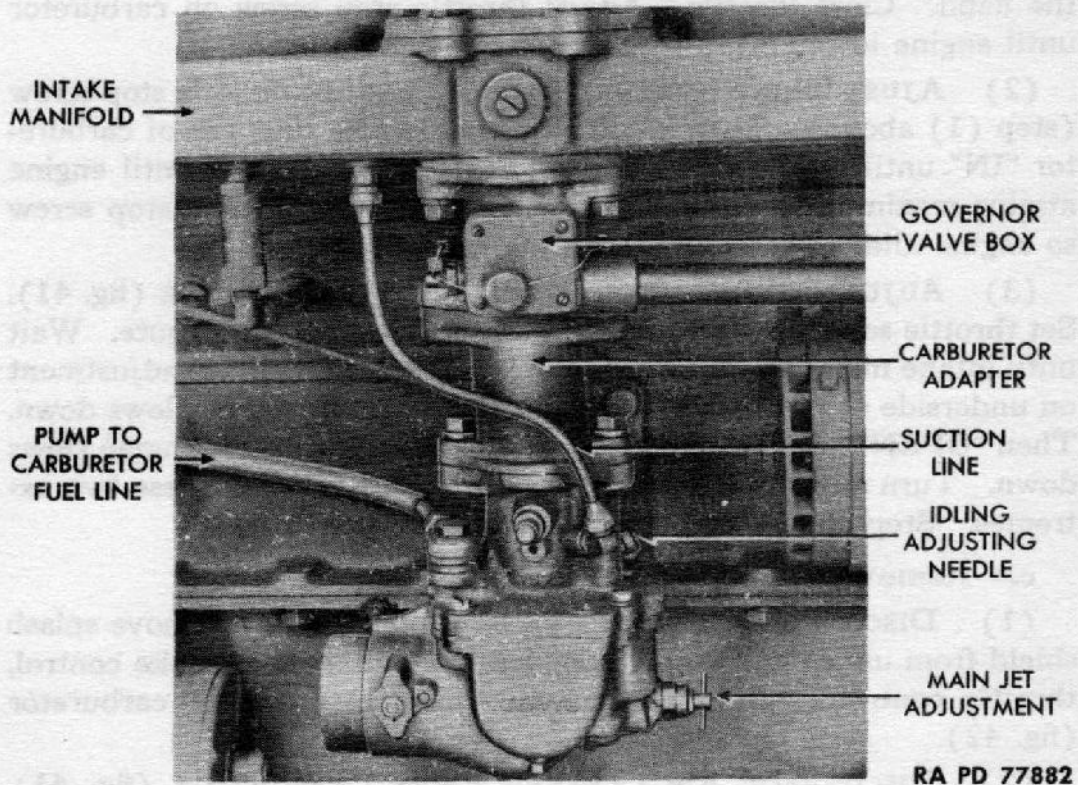
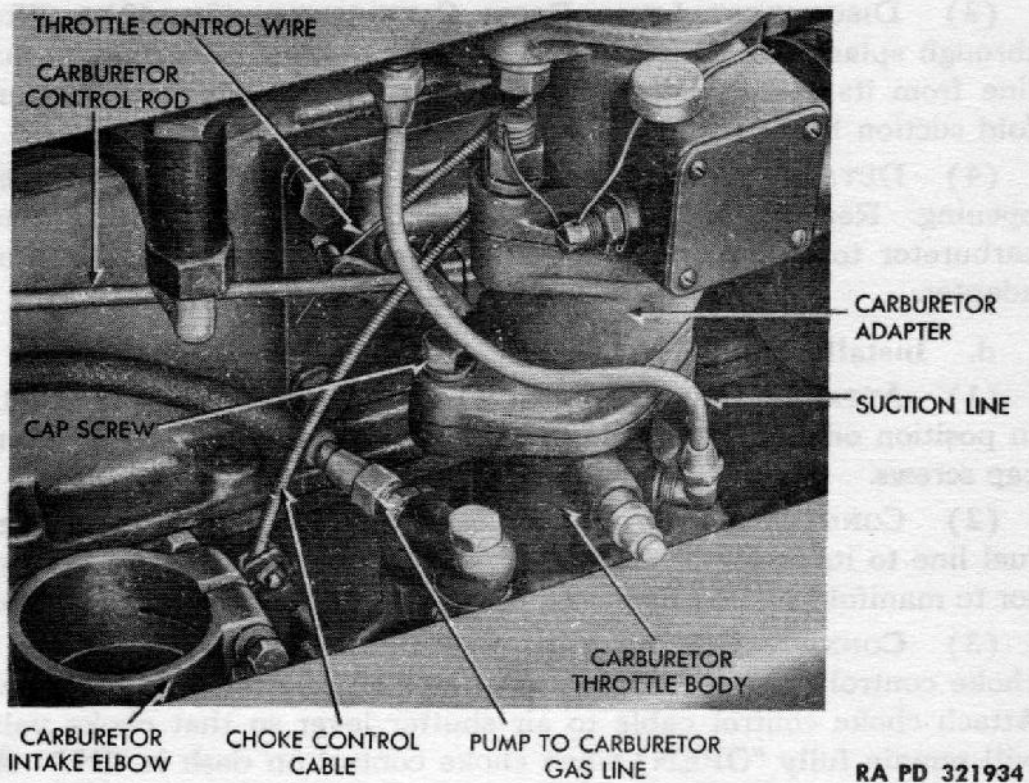

Figure 41 - Carburetor
Figure 42 - Carburetor Controls Installed
e. **Install Carburetor (fig. 42).** Place new gasket on top of carburetor adapter and secure with two cap screws and lock washers. Connect pump to carburetor gas line at carburetor. Install carburetor intake elbow on carburetor, and tighten elbow cap screw and nut. Connect carburetor control rod to carburetor. Insert cotter pin. Install suction line between intake manifold and carburetor.
a. Description (fig. 41).
65. CARBURETOR (fig. 41).
(2) **ADJUST IDLING MIXTURE** (fig. 41). Adjust throttle stop screw (step (1) above). Turn idling adjusting needle near top of carburetor "IN" until engine slows down. Back needle "OUT" until engine attains maximum speed for throttle setting. Set throttle stop screw so engine idles at 350 revolutions per minute.
(3) **ADJUST INTERMEDIATE AND HIGH-SPEED MIXTURE** (fig. 41). Set throttle so tachometer registers 550 revolutions per minute. Wait until intake manifold is warm to the hand. Turn main jet adjustment on underside of carburetor "IN" (clockwise) until engine slows down. Then "OPEN" adjustment (turn counterclockwise) until engine slows down. Turn adjustment to a position halfway between these two extremes. Stop engine and install cab splash shield.
(1) **DISCONNECT CONTROLS FROM CARBURETOR.** Remove splash shield from under right-hand front fender. Disconnect choke control, throttle control cable, and accelerator control rod from carburetor (fig. 42).
(2) **DISCONNECT AIR CLEANER FROM CARBURETOR** (fig. 41). From under truck, loosen carburetor to air cleaner elbow screw nut and disengage elbow from carburetor.
(3) **DISCONNECT LINES FROM CARBURETOR** (fig. 42). Work through splash shield opening. Disconnect pump to carburetor fuel line from its fitting on carburetor. Disconnect carburetor to manifold suction line (fig. 41) from its fitting on carburetor.
(4) **DETACH CARBURETOR** (fig. 41). Work through splash shield opening. Remove the two cap screws and lock washers which attach carburetor to carburetor adapter. Lift carburetor and gasket from adapter.
(1) **ATTACH CARBURETOR** (fig. 41). Place gasket and carburetor in position on carburetor adapter. Install the two lock washers and cap screws.
(2) **CONNECT LINES TO CARBURETOR** (figs. 41 and 42). Connect fuel line to its fitting on inside of carburetor. Connect carburetor to manifold suction line to its fitting on outside front of carburetor.
(3) **CONNECT CONTROLS TO CARBURETOR** (fig. 42). Push in choke control on dash. Open carburetor air shutter or choke valve. Attach choke control cable to air shutter lever so that choke valve will remain fully "OPEN" when choke control on dash is "IN." Attach throttle control wire to carburetor throttle lever. Be sure throttle is "CLOSED," and set control wire to hold it closed when
(4) **CONNECT AIR CLEANER** (fig. 42). Position carburetor intake elbow on rear of carburetor. Tighten intake elbow clamp screw nut.